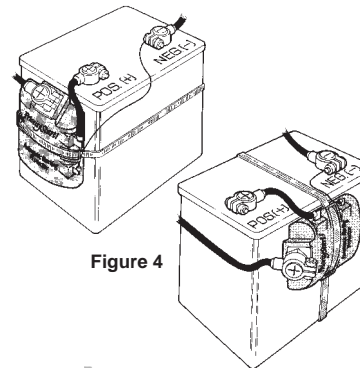

Figure 4
- ❑ PriorityStart! can be located anywhere on any wingnut-post or top-post battery, as long as the boat Pos.(+) cable reaches [figure 4].
6. Slip PriorityStart! under band (item ⑥). Unit can be installed in either a vertical or horizontal position [Fig. 4].